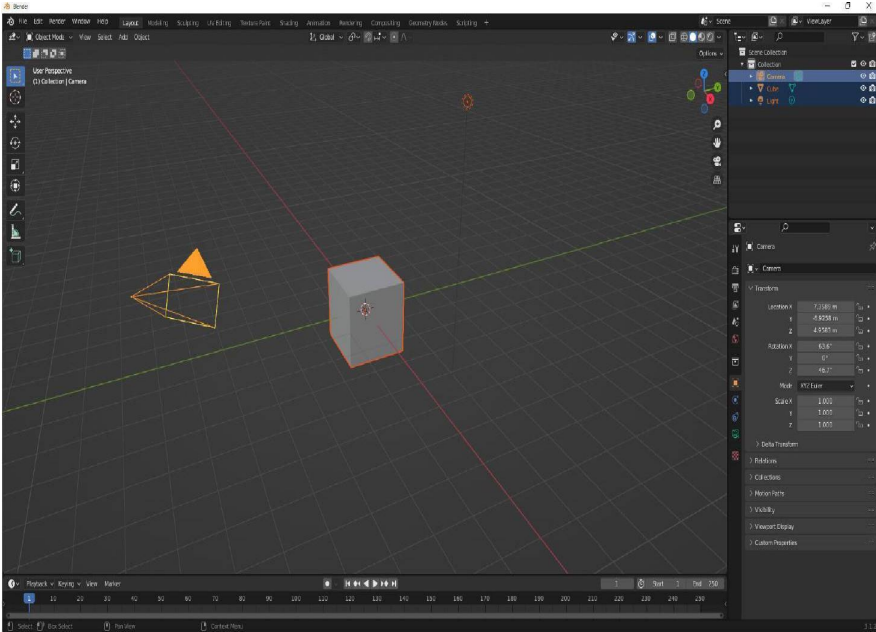

Figure 2.3: Three objects selected in the Outliner panel, Camera is outlined in yellow, Cube and Light in orange
1. To begin, select the three default objects via the Outliner, by pressing and holding **Shift**, then clicking each object name with the left mouse button as shown in *Figure 2.3*.